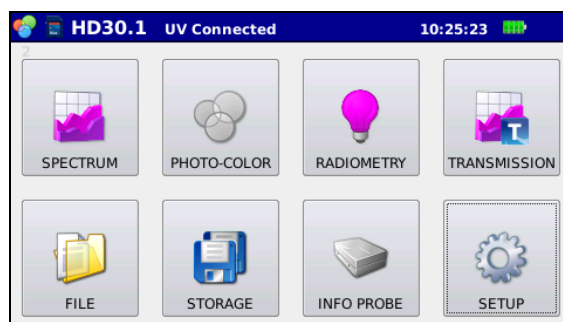

Figure 3.3: Start-up screen with the HD30.S2 probe connected.
*Spectrum, radiometry and transmission for the HD30.S2 probe (figure 3.3)*